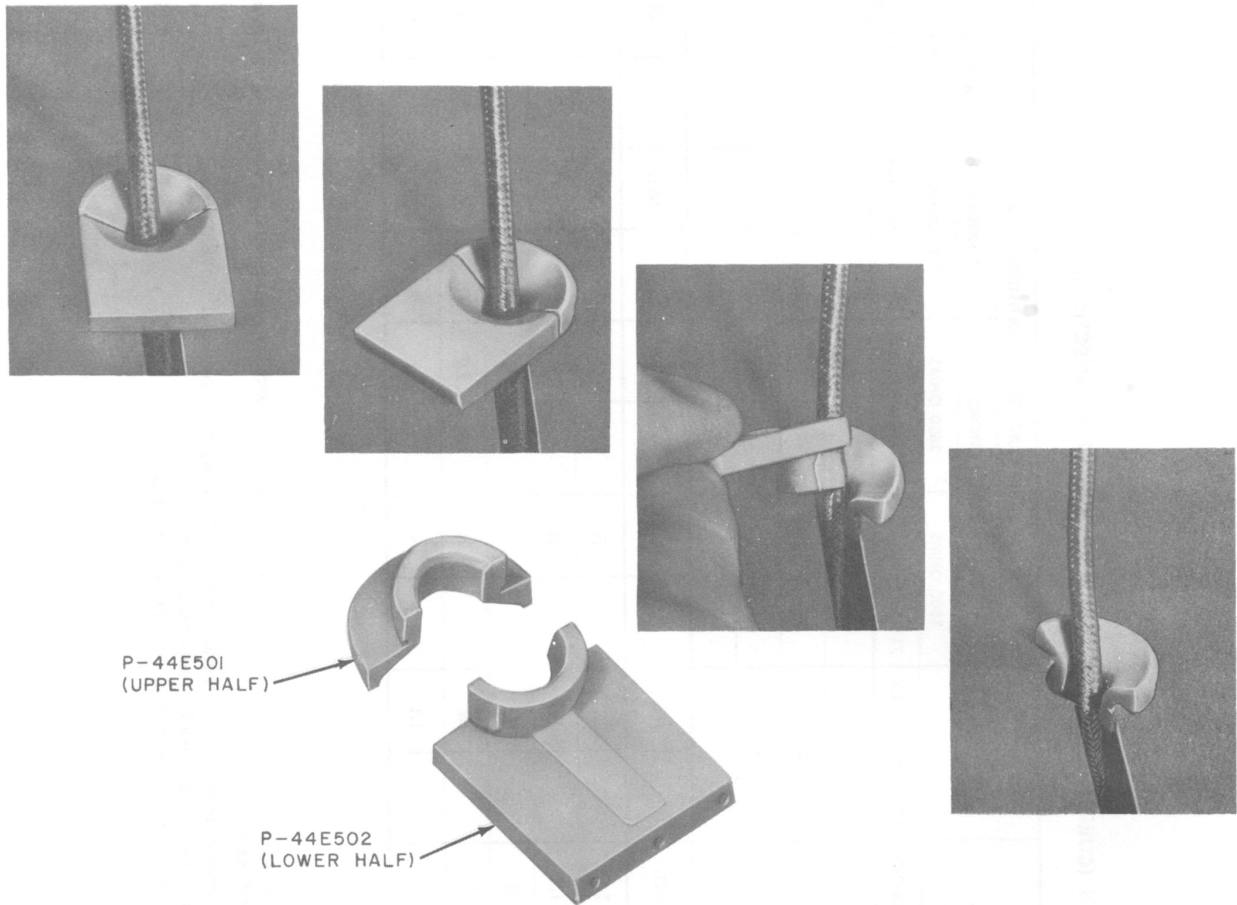

Fig. 7—Removal of Handset Cord Grommet
- (1) Grasp mat retainer frame at top, lift upward and out to release frame from panel of set.
- (2) Remove handset from hook of set.
- (3) Pull out handset cord to allow working slack.
- (4) Remove mat from face of panel.
- (5) Remove grommet from mat as shown in Fig. 7.
- (6) Install grommet in new mat by reversing procedure used in removal.
- (7) Position mat on panel and secure using the mat retainer frame.